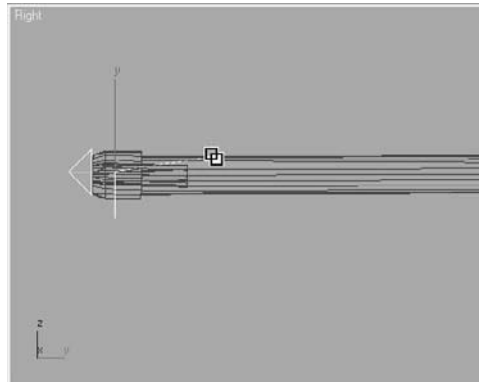

Figure 12.14
4. Click on the particle system; a rubber-banding line stretches from the emitter to the cursor. Place the cursor over the gun barrel and then click again. The gun flashes white to indicate that the linking is complete. Any changes in the gun's orientation or position are now passed down to the particle system, keeping it co-located and oriented with the gun. See Figure 12.14.